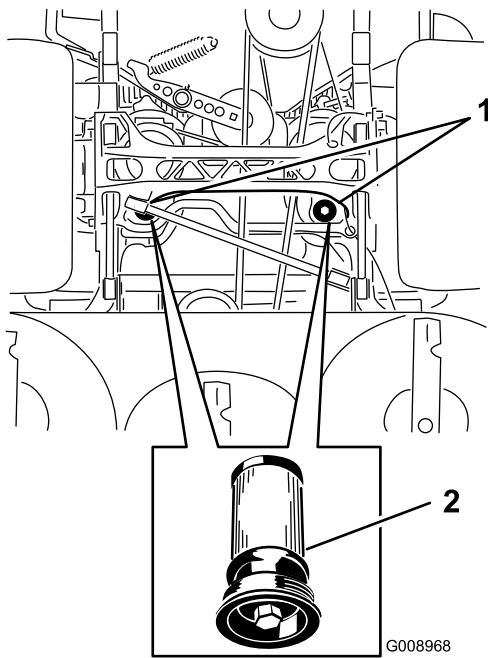

Figure 84
5. Place a drain pan under the filter, remove the old filter, and wipe the surface clean (Figure 84).
6. Apply a thin coat of hydraulic oil to the rubber gasket on the replacement filter (Figure 84).